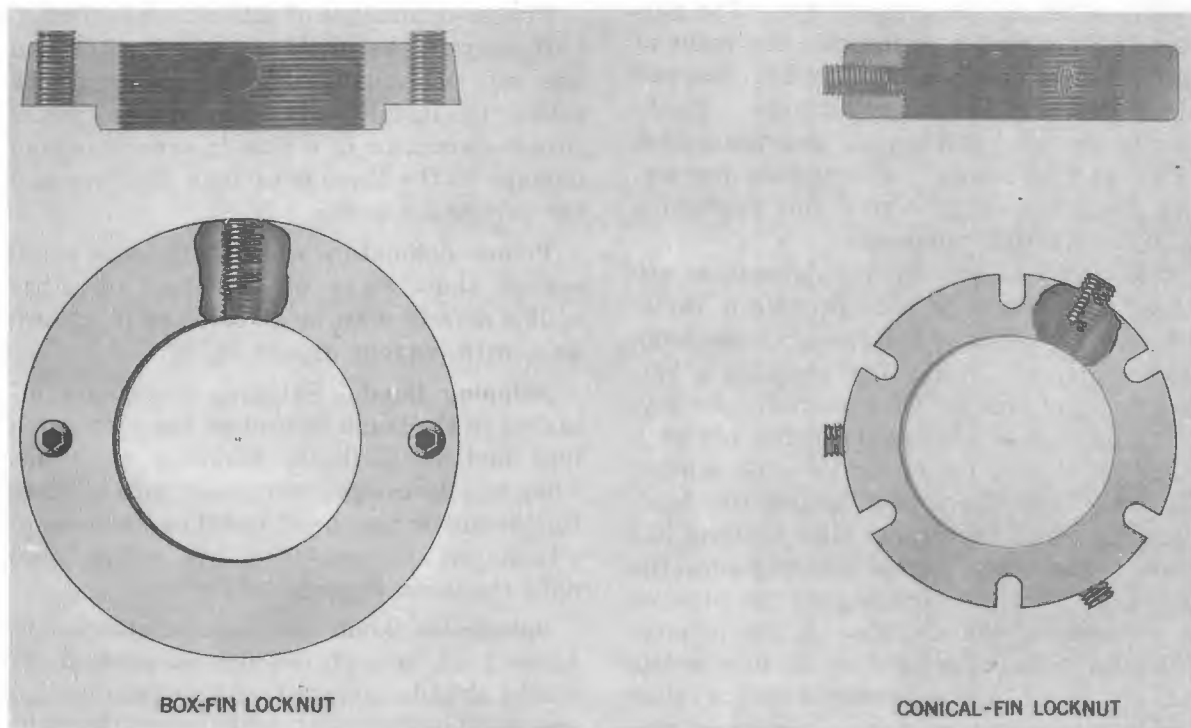

Figure 1-9.—Typical Fin Locknuts.
**FIN LOCKNUTS.** The fin locknut, figure 1-9, is a bushing which is threaded onto a base plug or a coupling tube to secure the fin assembly to the bomb. Three types of locknuts are currently provided for varying conditions, as follows.